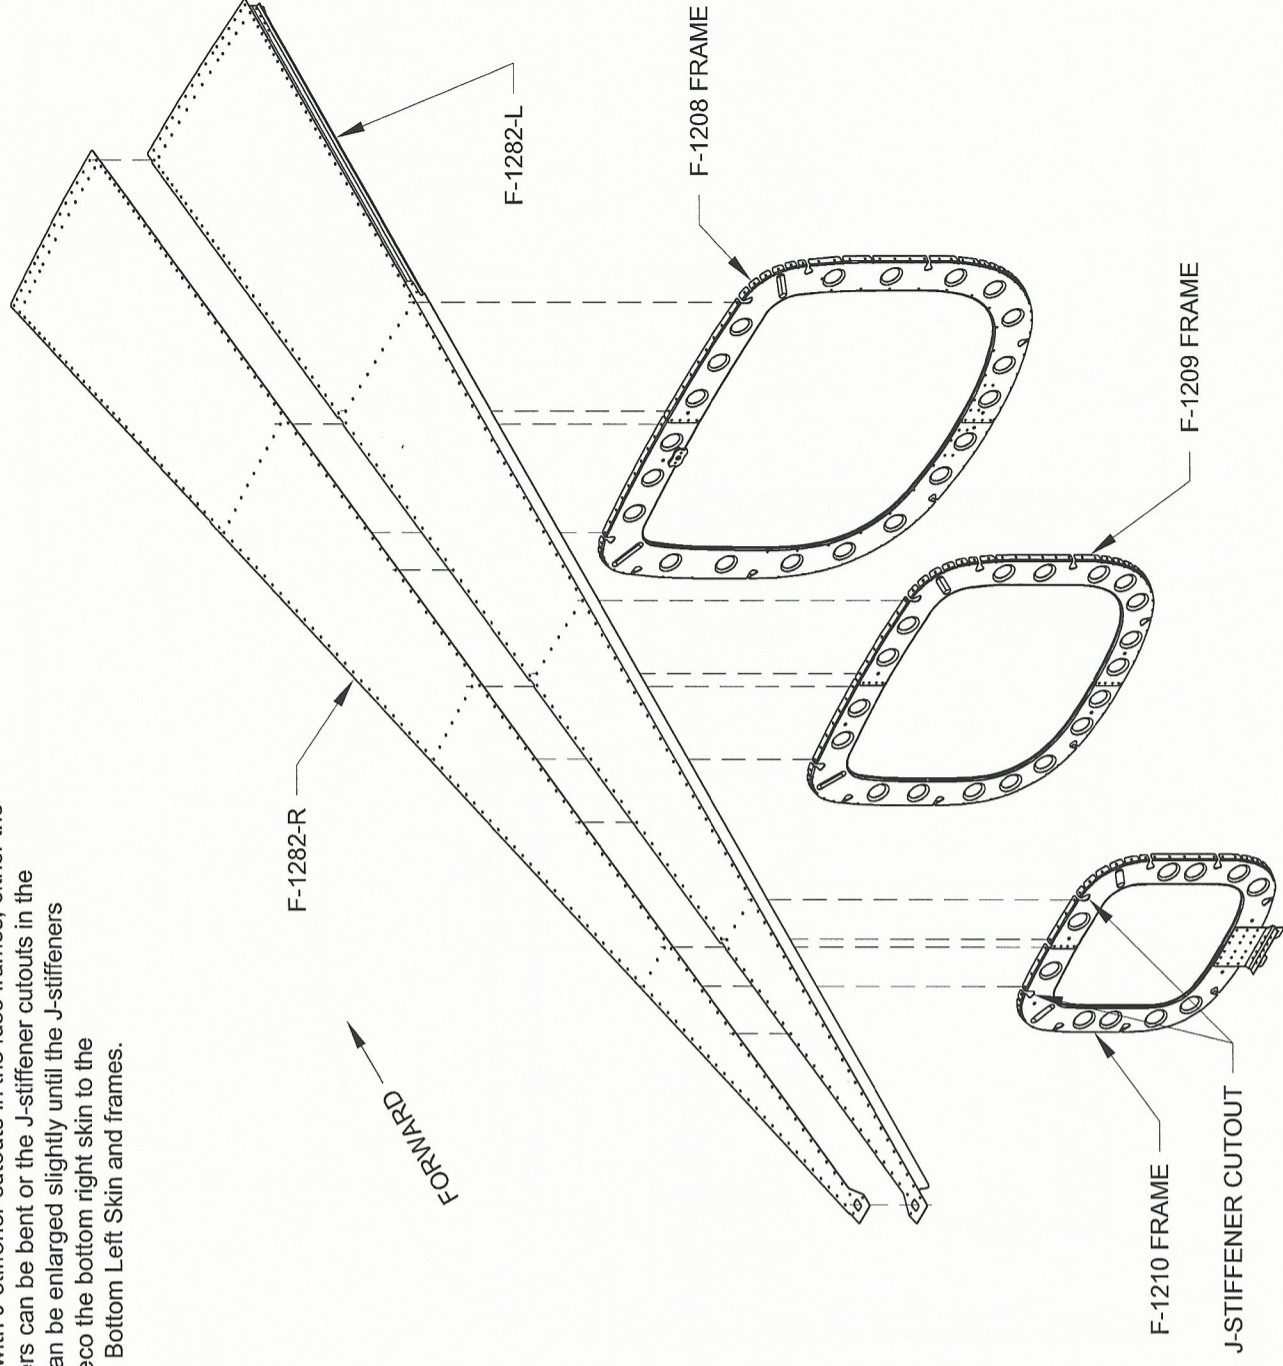

FIGURE 3:
Step 7: Place the F-1282-L Bottom Left Skin upside down across two sawhorses that are at least 38 inches tall. Locate the forward sawhorse just forward of where the F-1208 Frame will be, and the rear sawhorse just aft of where the F-1210 Frame will be. See Figure 3.